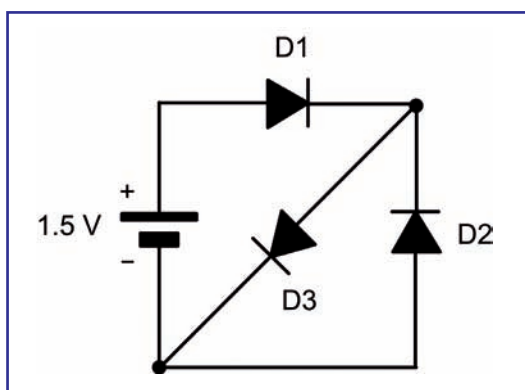

Fig.3.13. See question 3.3
- 3.3. Which of the diodes shown in Fig.3.13 is conducting?